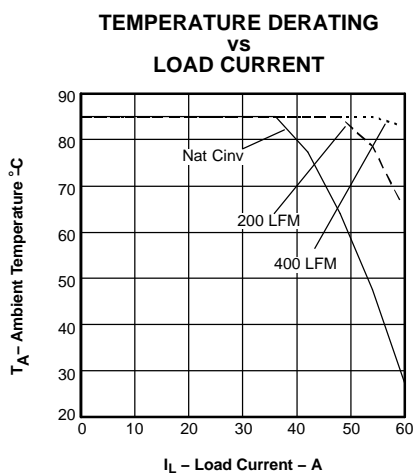

Figure 4.
- (2) SOA curves represent the conditions at which internal components are at or below the manufacturer's maximum operating temperatures. Derating limits apply to modules soldered directly to a 4 inches × 4 inches double-sided PCB with 1 oz. copper. Applies to Figure 4.